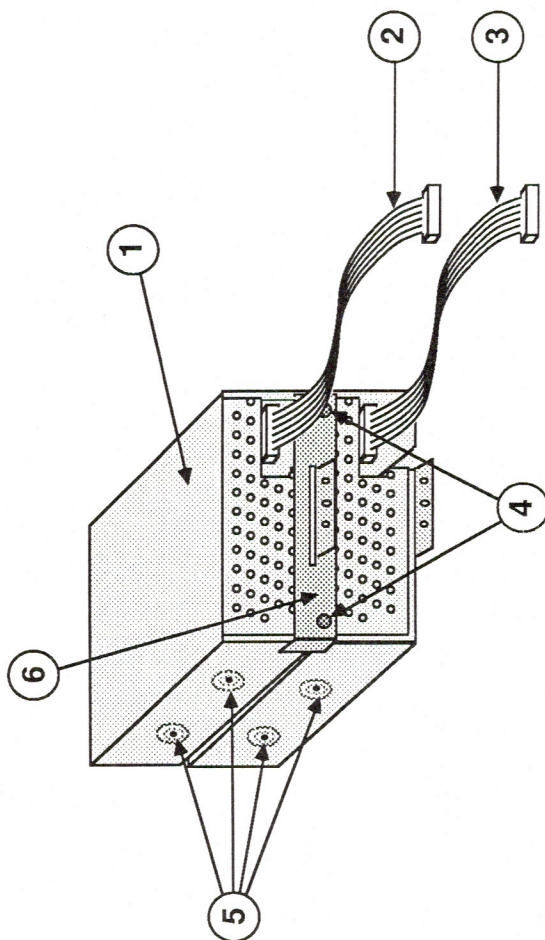

FIGURE 7
IPL.13	Dual Internal 800K Drives (Figure 7)
□ **MACINTOSH SE – DUAL INTERNAL 800K DRIVES (Figure 7)**